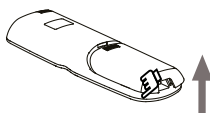

fig. 7
2) Lift up from the lower left end of the battery cover to open it (see “fig. 7”);